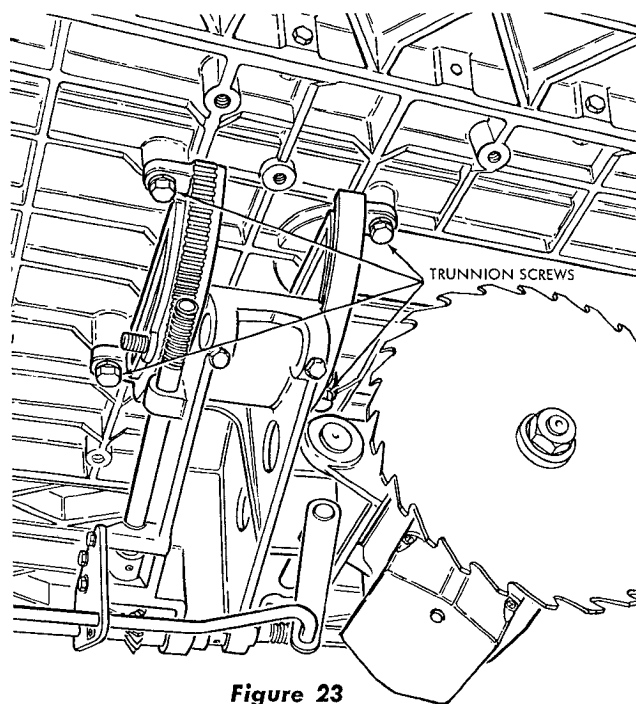

Figure 23
- (1) Tighten the clamp knob firmly (figure 20) and loosen the two screws which secure each table trunnion (front and rear) to the table. (See figure 23.) It will be necessary to reach these screws from underneath the table.